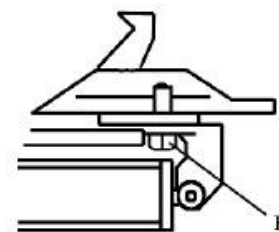

Fig 19
Note: After the first 20 days of use, retighten the jaws with tightening screws (B) on the Turntable (Fig 19)